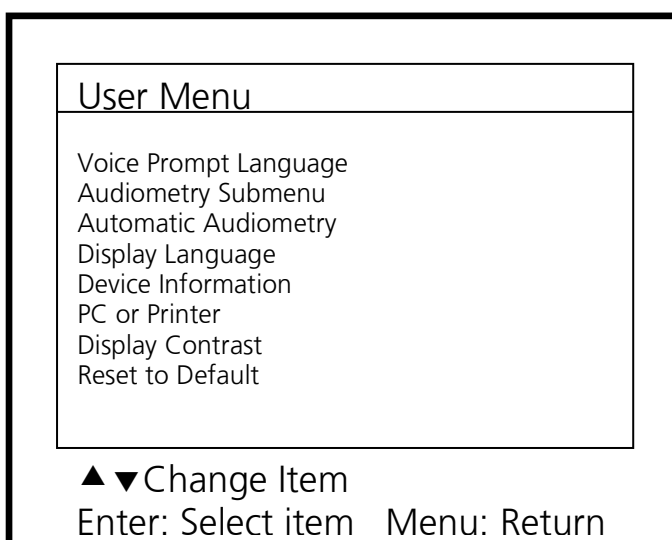

Figure 6: User menu
Press the **MENU** button (14) again to exit the respective menu or user menu (Figure 6). After leaving the user menu you will return to the test you last selected. The possible menu settings of the MA 30 are as follows:
Additional items on the **User Menu** screen (Figure 6) include: